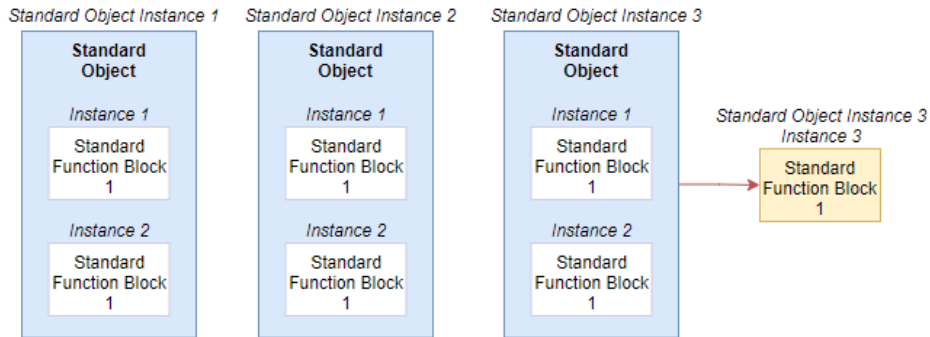

Figure 8.1 – Example of an extension
*Figure 8.1* shows an example of an extension whereby **Standard Object Instance 3** has an additional instance of **Standard Function Block 1** that is used outside of the normal parent. Because all instances of **Standard Object** use **Standard Function Block 1**, and **Standard Function Block 1** is in itself a standard, it can be used outside of **Standard Object**, and data that would normally be passed to **Standard Function Block 1** from the **Standard Object** interface can be passed directly instead.
If the example in *Figure 8.1* were to be replicated in **Totally Integrated Automation Portal (TIA Portal)**, the **Standard Object** interface might look something like this:
Figure 8.2 shows the **Standard Object** interface from Figure 8.1 realized in TIA Portal. This object can then be called in a parent object, and the two `Standard_Function_Block` instances will be executed with data from the parent interface.